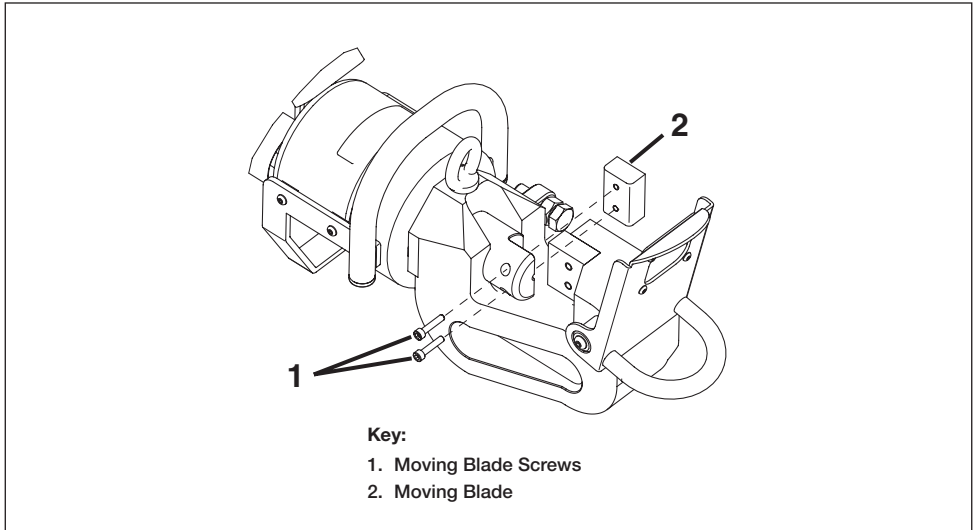

Figure 14, Moving Blade Replacement
1. Start the pump. Extend the piston to allow access to the moving blade and screws. See Figure 14.
5. Loosen and remove the moving blade screws (Figure 14, item 1).
6. Remove the worn moving blade (Figure 14, item 2).
7. Install new moving blade (Figure 14, item 2) onto the piston.
8. Install the new moving blade screws (Figure 14, item 1). Torque to 91 in-lb [10 Nm]. Apply Loctite 243 or equivalent.